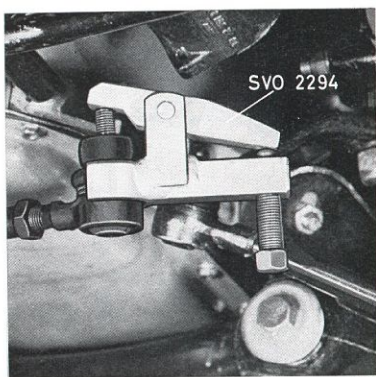

Fig. 6-64. Removing ball joint
The ball joints cannot be disassembled or adjusted so when worn or damaged they must be replaced. The ball joints of the tie rod can be replaced individually. When removing, first take off the split pins and crown nuts. Then place tool 2294 on the ball joints as shown in Fig. 6-64. Press in the tool well and make sure that the thread on the ball joint enters the recess in the tool. Screw in the bolt until the ball joint loosens.
2. Disconnect the steering rod and tie rod ball joints from the relay arm with puller 2294 as shown in Fig. 6-64.
2. Disconnect the ball joint for the steering rods and tie rod from the relay arm with puller 2294 as shown in Fig. 6-64.